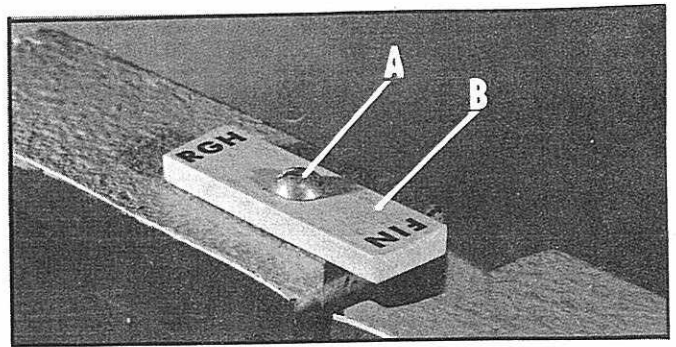

Fig. 21.
2. Remove the round head screw (A) and cutter setting gage (B) Fig. 21. NOTE: The cutter setting gage is precision ground at each end. One end is ground .003" from the face, the other is ground .005" from the face.